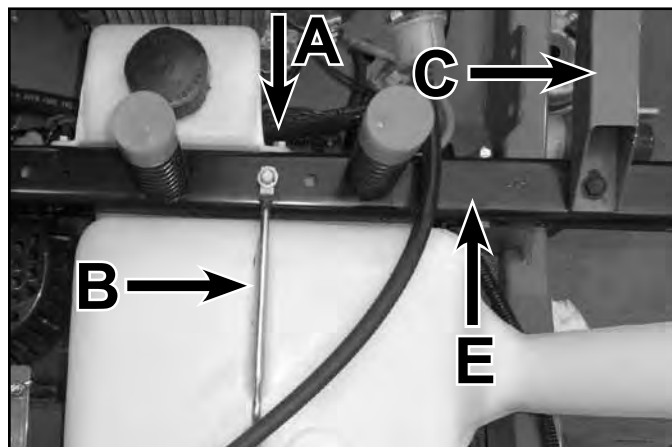

Fig. 036
6. Remove the (2) bolts and nuts that secure the seat support (E) to the frame brackets.
7. Note the location of and remove any cable ties / loom clamps securing wiring / cables to the seat support bar (E).
8. Remove the seat support bar from the frame. (Fig. 036)